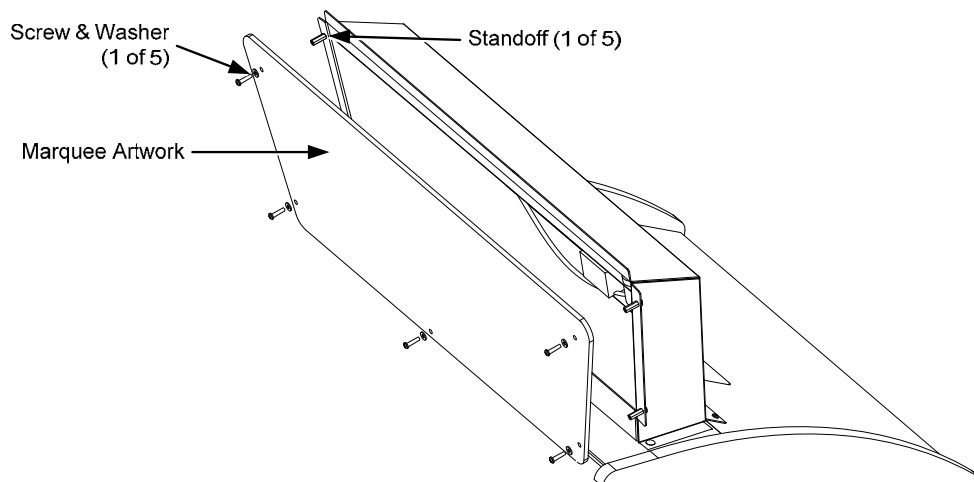

Figure 3. 42" Marquee Installation
4. **42" Cabinet:** Refer to Figure 3. Unpack the Marquee artwork; it is printed on Plexiglas®. The nuts, washers, and standoffs for mounting the artwork are shipped installed in the marquee on the cabinet. Remove the five (5) nuts and washers but leave the standoffs in place. Use this hardware to secure the Marquee artwork in place as shown in Figure 3.